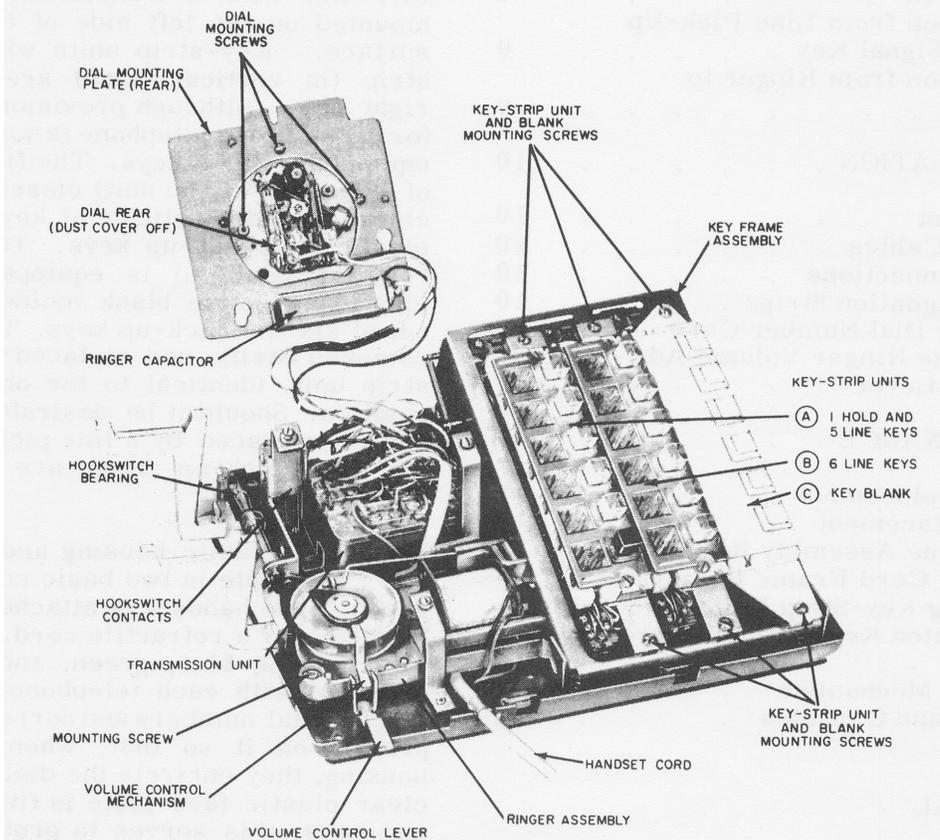

Figure 2. Type 860A Telephone with Housing Removed, and Dial Assembly Raised and Inverted.
2.02 The plastic housing and the handset are available in two basic colors: beige and green. The handset is attached to the housing by means of a retractile cord. Five face mats, silver, gold, blue, green, and ivory are also provided with each telephone. Each face mat has the dial numbers and corresponding letters printed on it so that, when in place on the housing, they encircle the dial. A two-section clear plastic face plate is fitted over the dial and keys; this serves to protect, and secure the face mat underneath. A lever for adjusting ringer volume projects from the lower left front of the housing. See Figure 2.
4.11 Remove the key telephone housing (paragraph 4.03) and remove the key-strip blank by loosening the mounting screws (Figure 2) which secure it to the key frame. Remove and discard the plastic dust covers protecting the third plug in the key frame and the receptacle in the key-strip unit.
4.17 Remove the key telephone housing cover, and loosen the mounting screws (Figure 2) at both ends of the key-strip unit in position one. Raise the key-strip unit out of the key well in the key frame assembly until the receptacle of the key-strip is disengaged from the plug attached to the key frame assembly and